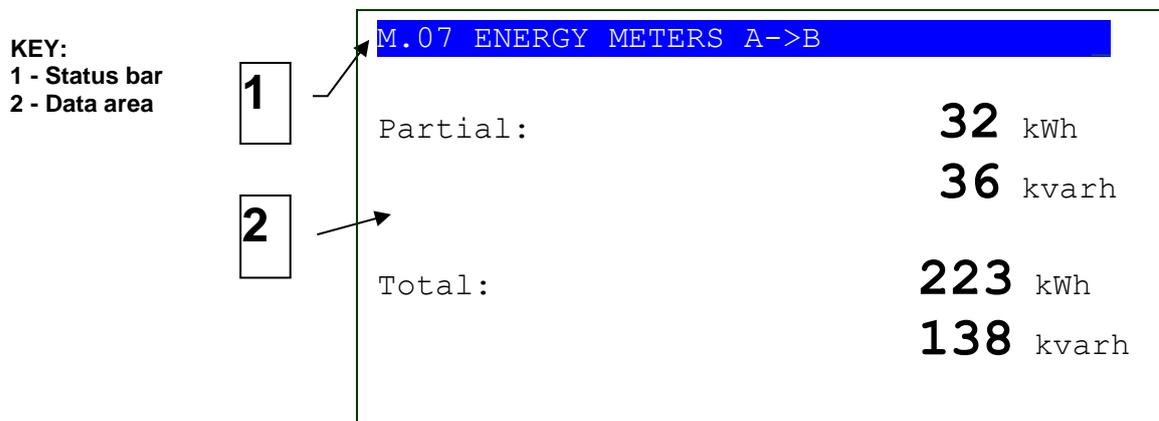

Fig. 3 - Display areas
6.4.5 Display area layout (ref. to fig. 3)